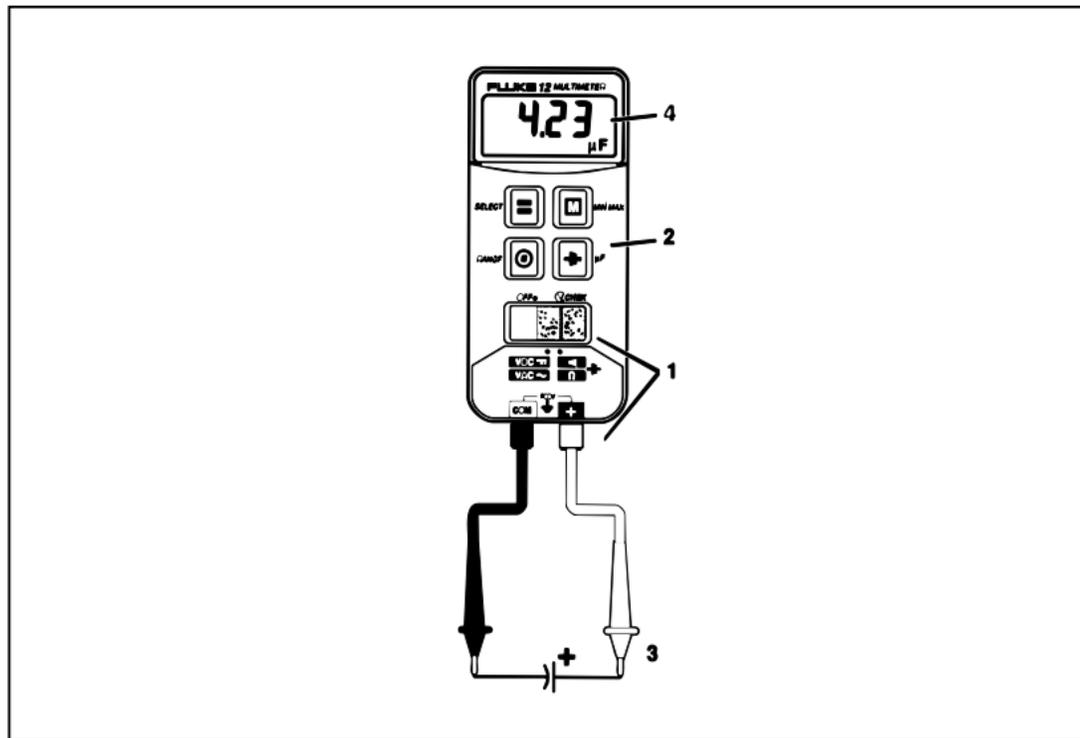

Figure 6. Measuring Capacitance
1. Insert test leads, and move the slide-switch to [⚡]. (See Figure 6.)